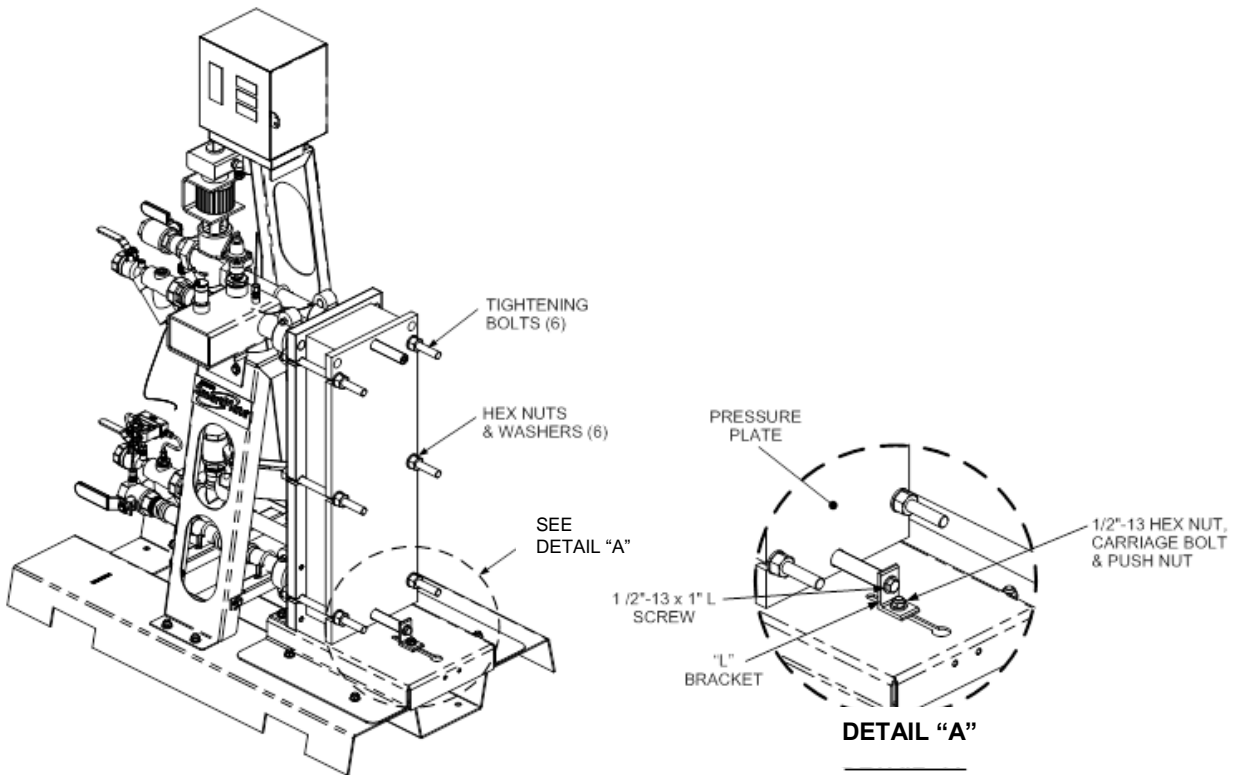

Figure 8-19. Double-Wall Heat Exchanger Mounting Details - Rear
6. Using a ratchet wrench with an extension and a 3/4" deep socket, remove, the four (4) Victaulic couplings (Figure 8-19). Two (2) couplings are located on the Domestic Water Side and two (2) are located on the Boiler Water Side.
9. For smaller SmartPlate units (models SPDW23, SPDW32 SPDW42) use a 3/4" socket wrench to remove the horizontal hex head screw and washer shown in Figure 8-19. Also, remove the hex nut securing the "L" bracket to the heat exchanger mount.